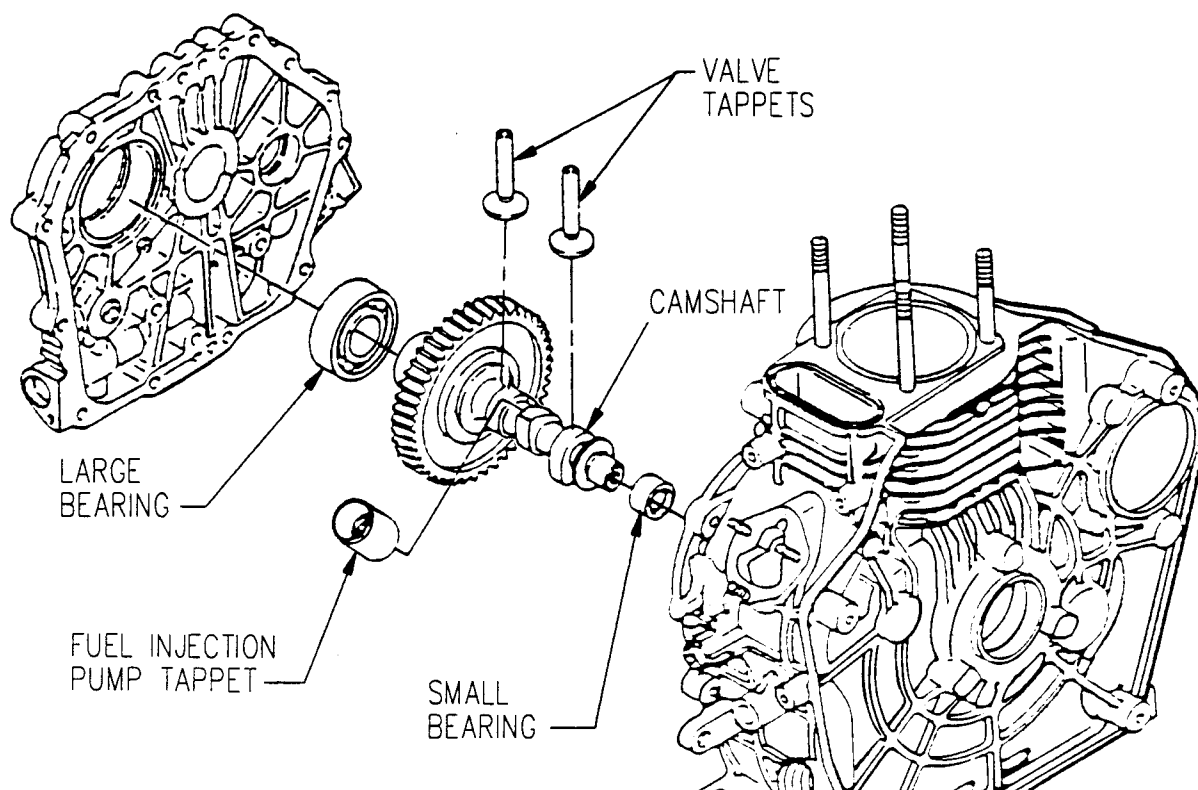
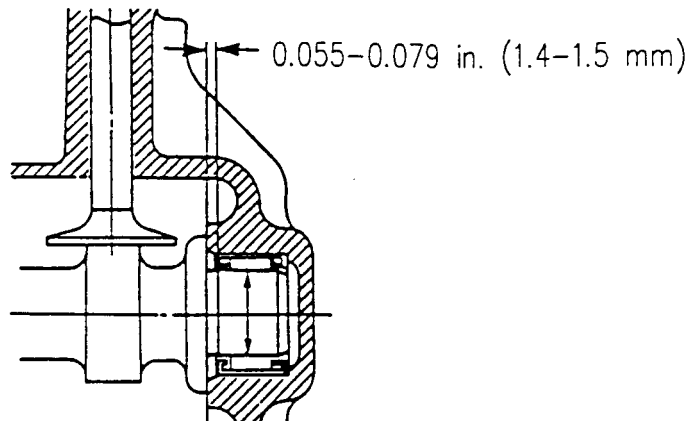

Figure 5-17. Camshaft
Figure 5-18. Positioning Camshaft Bearing in Cylinder Block
- (5) Pull camshaft (Figure 5-17), valve tappets, and fuel injection pump tappet from cylinder block.
- (6) If necessary, remove large bearing from crankcase cover.
- (7) If necessary, remove small bearing from cylinder block.
- (1) If removed, install small bearing (Figure 5-17) in cylinder block (Figure 5-18).
- (2) If removed, install large bearing (Figure 5-17) in crankcase cover so bearing is flush with surface of cover.